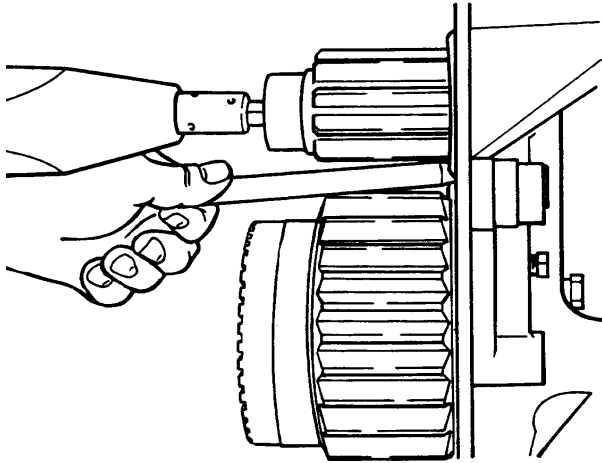

Figure 243 - Half-Shaft Gear Centre Bolt - Removal
- p. Lock up the final drive by inserting a soft (copper) drift between the gear teeth of the half-shaft gear and the hub gear, and then remove the half-shaft gear centre bolt (Fig 243).